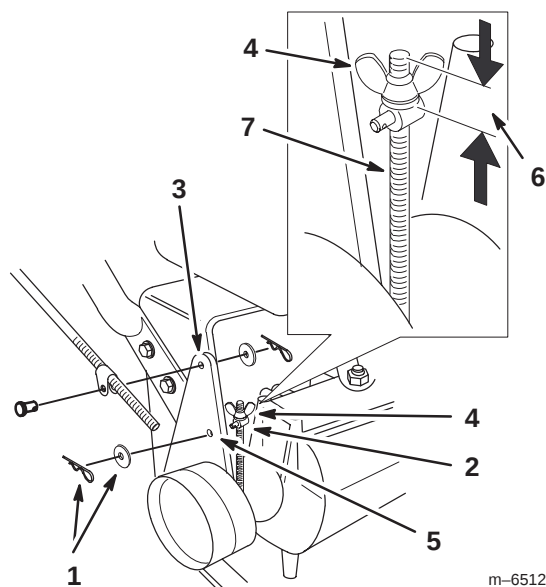

Figure 38
Note: For the initial adjustment, adjust the wing nut until it is 1–1/4 inches from the top of the rod (Fig. 38).
5. To adjust the brake remove the hair pin cotter and washer from the brake lever and trunnion (Fig. 38).
8. Install the trunnion into hole F (Fig. 38). Tighten the wing nut.
9. Secure trunnion to brake lever with washer and hair pin cotter (Fig. 38).